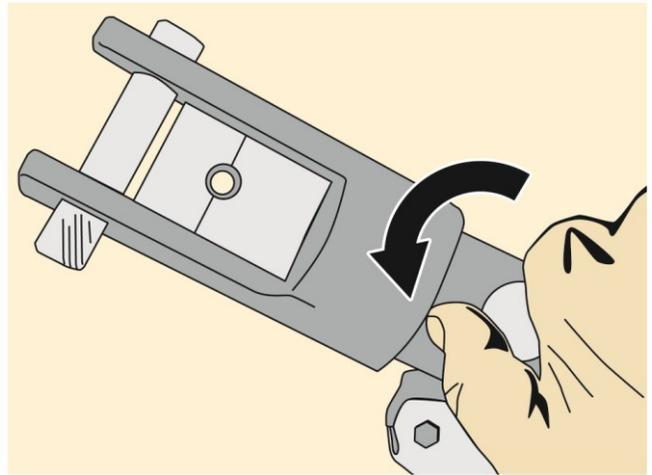

Fig 11
- Screw on the FineLine® Threaded Plug (Fig. 11).